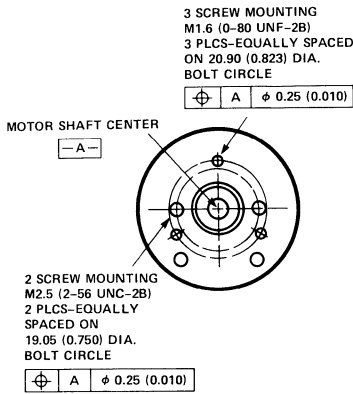
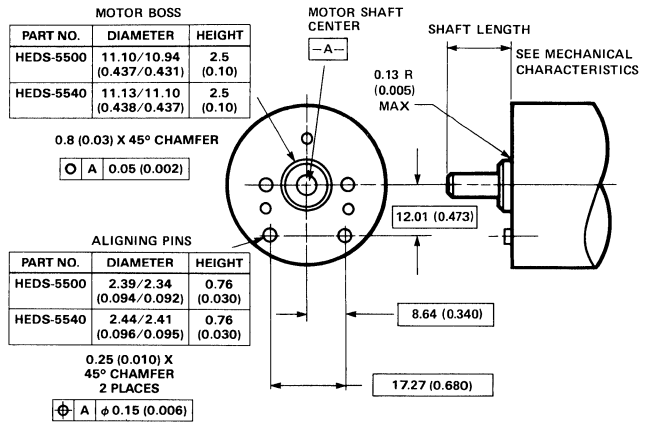

Figure 2. Mounting Holes.
Figure 3. Optional Mounting Aids.
- The HEDS-5540 and 5640 must be aligned using the aligning pins as specified in Figure 3, or using the alignment tool as shown in "Encoder Mounting and Assembly". See also "Mounting Considerations."
The HEDS-5540 and 5640 three channel encoders must be aligned using the aligning pins as specified in Figure 3, or using the HEDS-8910 Alignment Tool as shown in Encoder Mounting and Assembly.
screw mounting option as shown in Figure 2. The optional aligning pins shown in Figure 3 can be used with either mounting option.